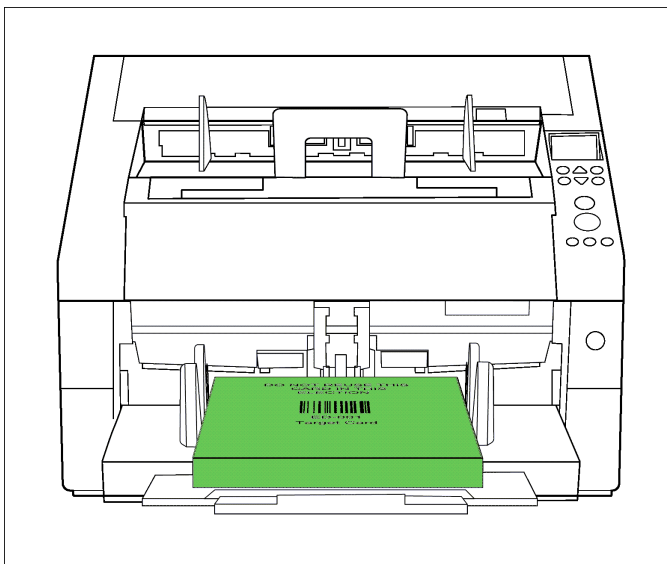

Figure 5-6. Cards placed face down on the right side of the table
3. Remove the scanned cards from the output tray of the scanner and place them face down on the right side of the table (Figure 5-6).